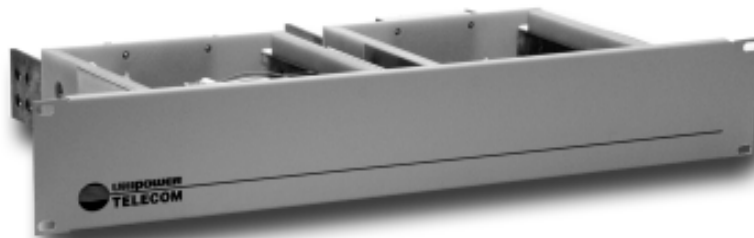

Figure 1. LVD400/600 Low-Voltage Disconnect Panel
- 1.3** Figure 1 shows the LVD400/600 Low-Voltage Disconnect Panel. The unit is only two mounting positions high, 3.5 inches, to minimize rack space. It can be specified for either a 19- or 23-inch relay rack mounting.